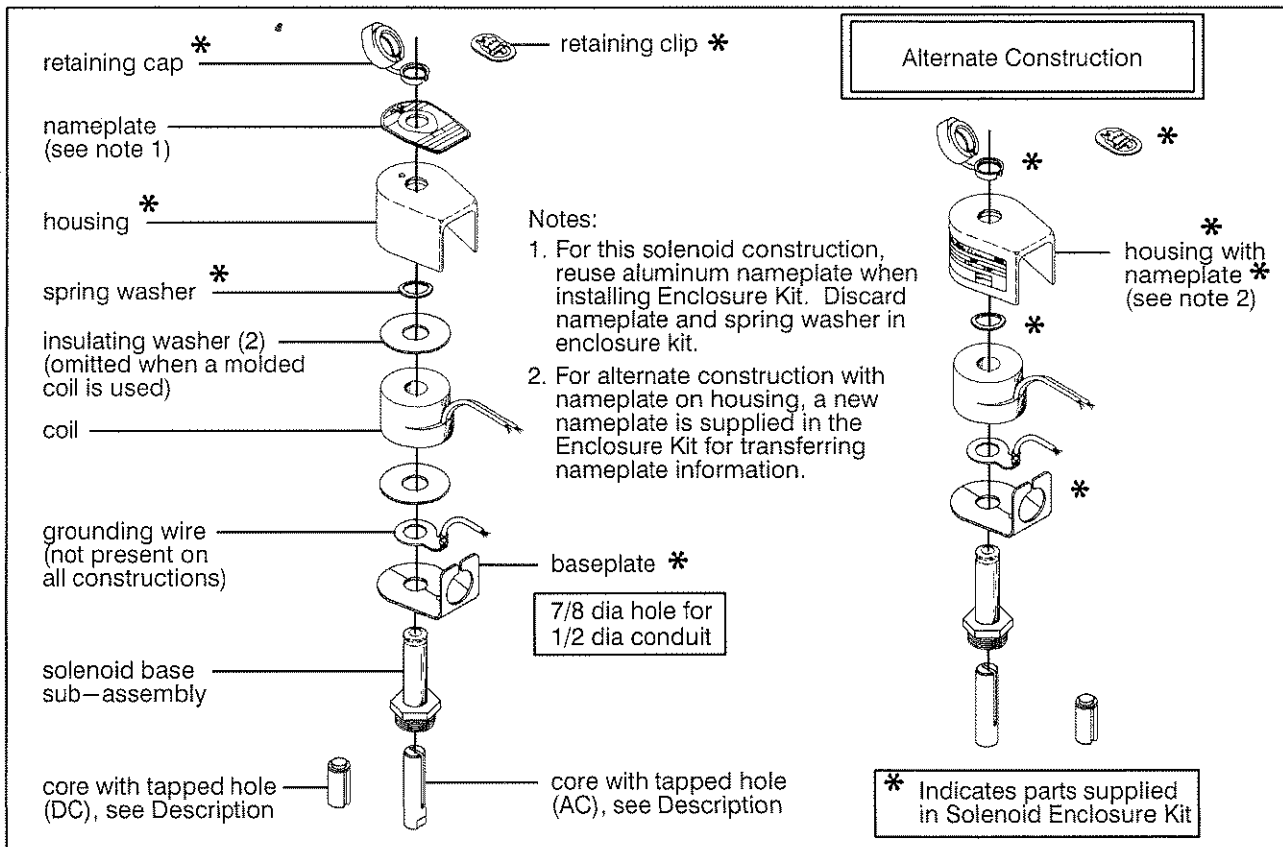

Figure 1, Catalog Nos. 80031 and 80032 General Purpose Solenoid Enclosure.
**General Purpose Enclosure** (Refer to Figure 1 below)